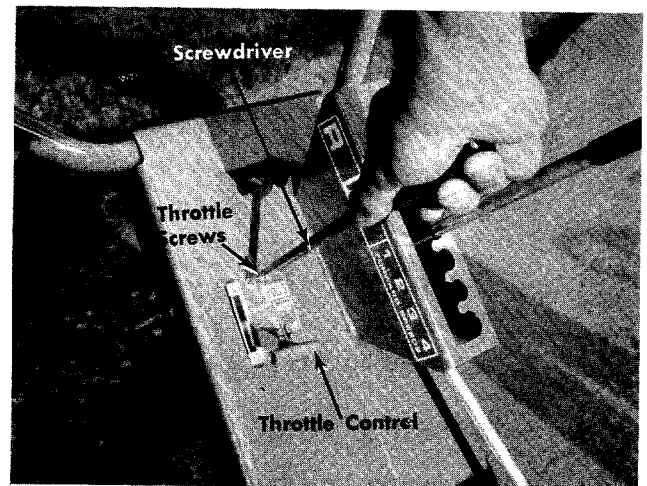

FIGURE 9. CONTROLS
The Control Lever is released from Neutral by moving it to the right and allowing the spring tension to pull the control lever into one of the four forward speeds. See figure 9.
To stop the engine, pull the throttle control all the way back towards you. To start, push the throttle control all the way forward. See figure 9.
To stop the engine, pull the throttle control all the way back to STOP position. See figure 9. When the throttle control is in the STOP position, a switch blade is activated to short-circuit the spark plug.
Pull the control lever into the NEUTRAL position. The tines will not rotate. See figure 9.
- Step 6. To reverse the direction of rotation of the tines, pull the control lever into the reverse position. The control lever must be held in reverse. See figure 9.